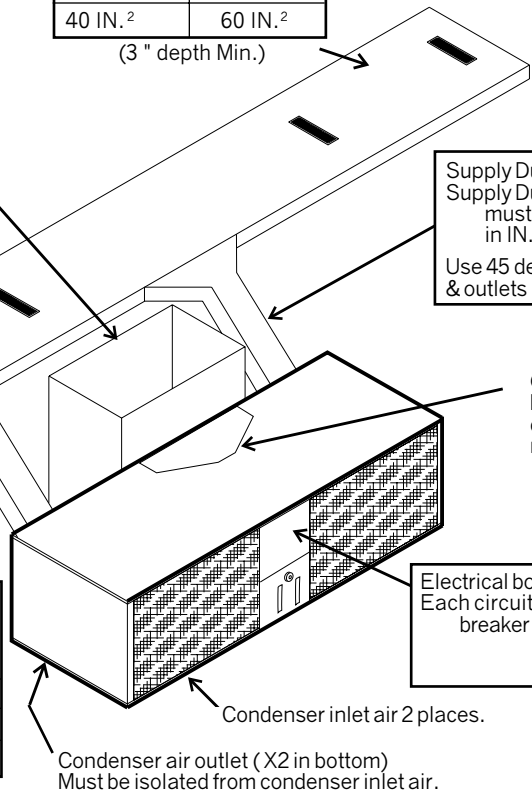

FIG. 3
- 12) In the event that other A/C's are to be installed (additional zones) an additional 4-conductor telephone cable must be routed to the **other A/C's**. Make sure that at least 15" of the wire extends into each of the roof openings. See FIG. 3.